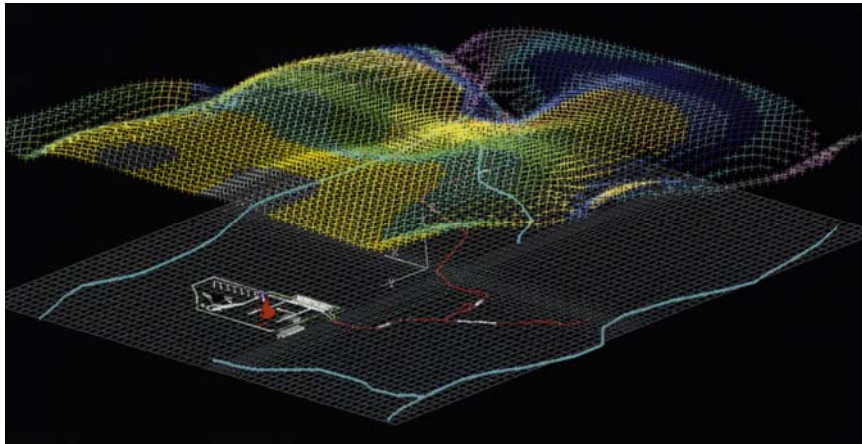

Figure 6: Finite difference mesh including surface mine design and cadastral information created from 3D aquifer model.
- Integrate topographic, geological and survey information with hydrogeological data (Fig. 6)